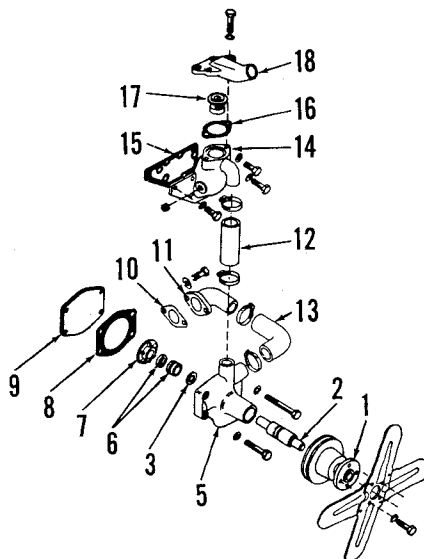

Fig. 82—Exploded view of water pump and thermostat housing.
83. **THERMOSTAT.** The thermostat (17—Fig. 82) is contained in a housing under the coolant outlet elbow (18). Thermostat should begin to open at 81°-84°C (177°-183°F) and should be fully open at 98°C (208°F).
To disassemble, remove back cover plate (9—Fig. 82). Remove pulley hub (1)